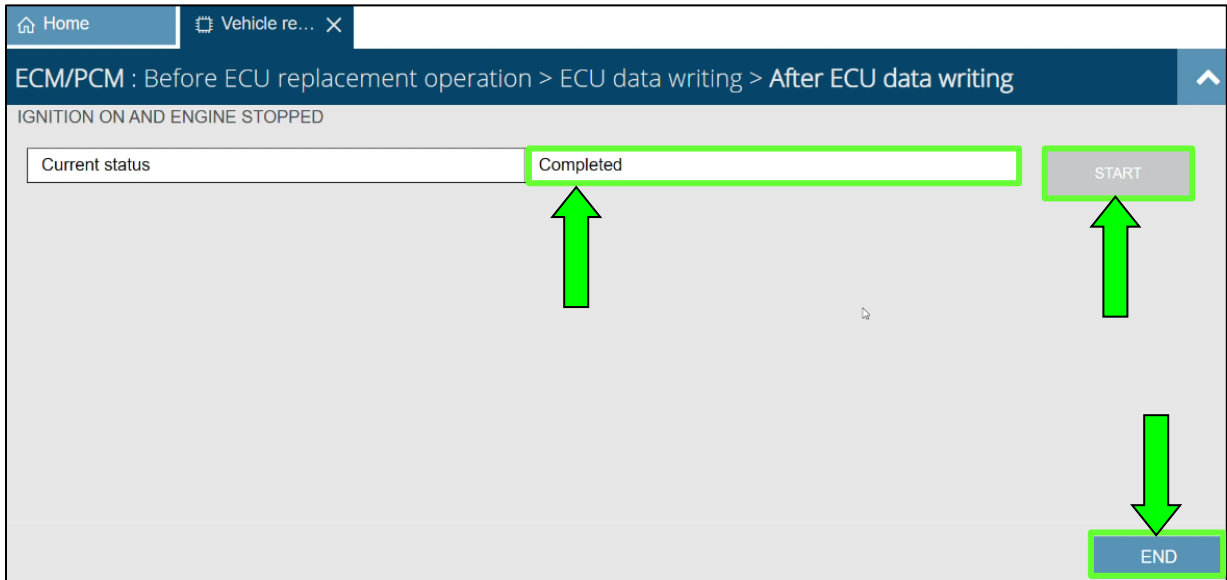

Figure 25
27. When the screen shown in Figure 25 is displayed, select **START**, wait for the status to change to **Completed**, and then select **END**.